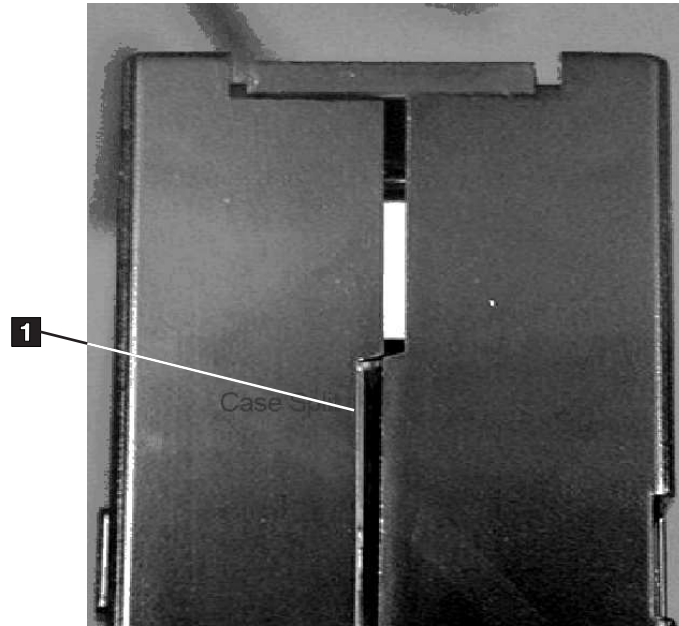
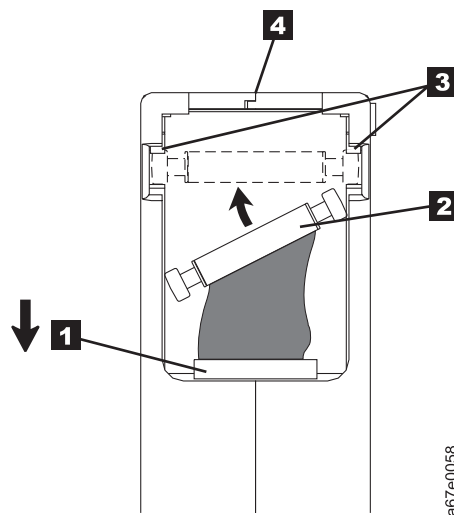

Figure 17. Checking for gaps in the seams of a cartridge
Figure 19. Placing the dislodged leader pin into the correct position. The cartridge door is open to show the leader pin.
- Inspect the rear of the cartridge (the part that loads first into the tape load compartment) and ensure that there are no gaps in the seam of the cartridge case (see **1** in Figure 17 on page 53 and **4** in Figure 19 on page 55). If there are gaps in the seam (see Figure 17 on page 53), the leader pin might be dislodged. Go to “Repositioning or reattaching a leader pin” on page 54.
Split cartridge case. See Figure 17.
1. Slide open the cartridge door ( **1** in Figure 19) and locate the leader pin **2** (you might need to shake the cartridge gently to roll the pin toward the door).